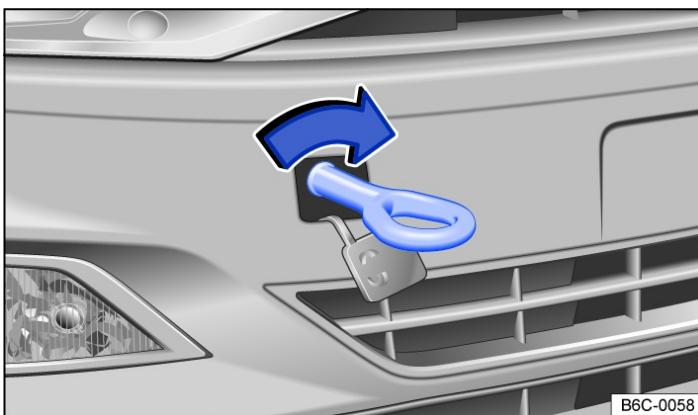

Fig. 2 In the front bumper on the right: screwing in the towing eye.
- Turn the towing eye clockwise into the mounting → Fig. 2 and tighten as far as it will go → ①. Use a suitable object to screw the towing eye fully and securely into the mounting.